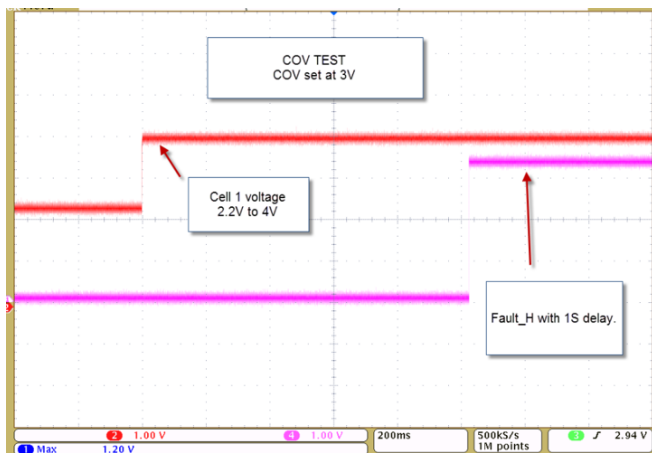

Figure 32. Fault Signal by Cell Overvoltage
5. View the fault signal assertions, which are identical to the assertions that Figure 32 shows.